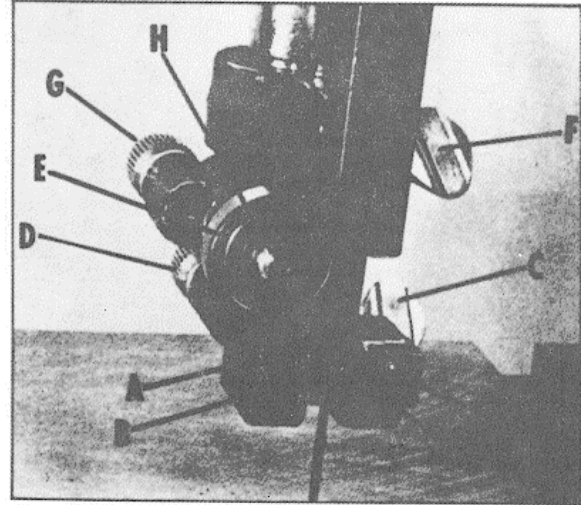

Fig. 17
1. The upper blade guides (A) Fig. 17, are held in place by means of the setscrews (B). Loosen the setscrews (B) to move the guides (A) as close as possible to the side of the blade, being careful not to pinch the blade. Then tighten the screws (B).
2. The guides (A) Fig. 17, should then be adjusted so that the front edge of the guides are just behind the gullets of the saw teeth. The complete guide block bracket can be moved in or out by loosening thumbscrew (C) and turning knurled knob (D) Fig. 17. When guides (A) are set properly, tighten thumbscrew (C).
3. The upper blade support bearing (E) Fig. 17, prevents the blade from being pushed too far to the back which could damage the set in the saw teeth.
4. The blade support bearing (L) should also be adjusted so the back edge of the blade overlaps the outside diameter of the ball bearing by about $1/16$ ". The bearing (E) is set on an eccentric and to change position remove screws (H) and bearing (E) Fig. 17. Loosen thumbscrew (F), back out screw (G) and reposition shaft that bearing (E) is attached to.